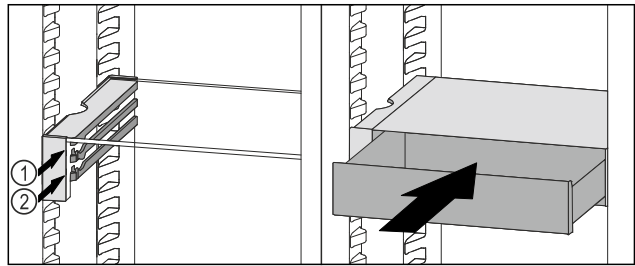

Fig. 134
- ▶ Place the VarioSafe drawer behind the stoppers on desired rib *Fig. 134 (1)* or *Fig. 134 (2)*.